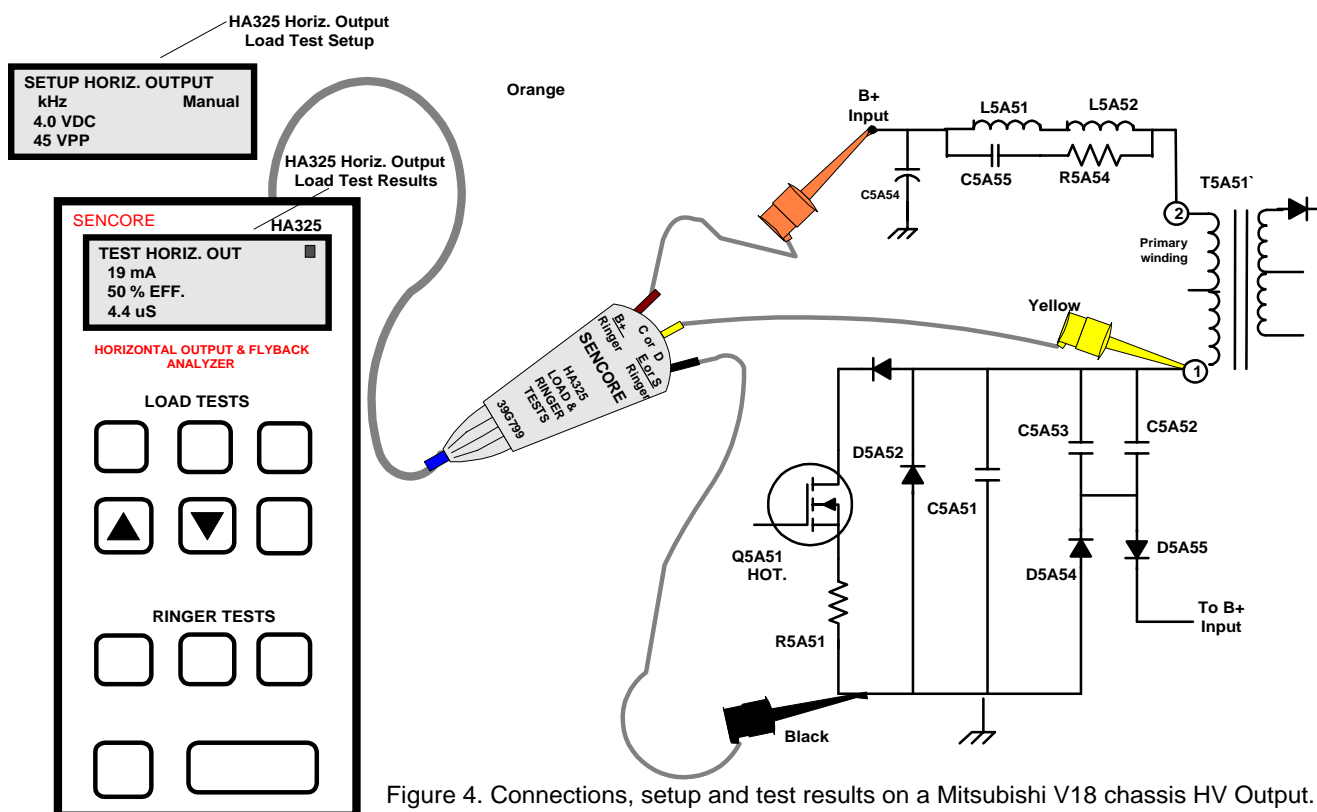

Figure 4. Connections, setup and test results on a Mitsubishi V18 chassis HV Output.
The Horiz. Output Load Test connections, setup and test results on the Mitsubishi V18 HV horizontal output stage are shown in figure 4. Test lead connections include connecting the orange clip to the positive terminal of C5A54 or pin 2 of the flyback transformer. The yellow lead is connected to pin 1 of the flyback transformer. **Do not connect the yellow test lead clip to the drain of Q5A51.** The black lead clip is connected to the ground of the circuit.
1. Remove Power to the Chassis – Connect test clips as shown in figure 4.
1. With chassis off, remove the IHVT, connect the test lead clips as shown in figure 4.